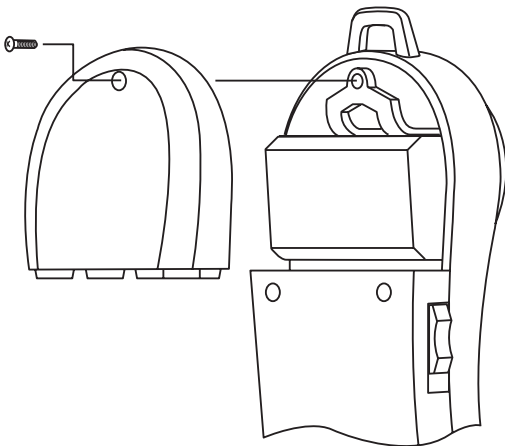

Figure 3-2. Replacing the battery.
1. Remove the single screw at the top of the Ranger’s back panel with a #1 Philips-head screwdriver, then remove the test set’s battery door, as shown in Figure 3-2 on the next page.